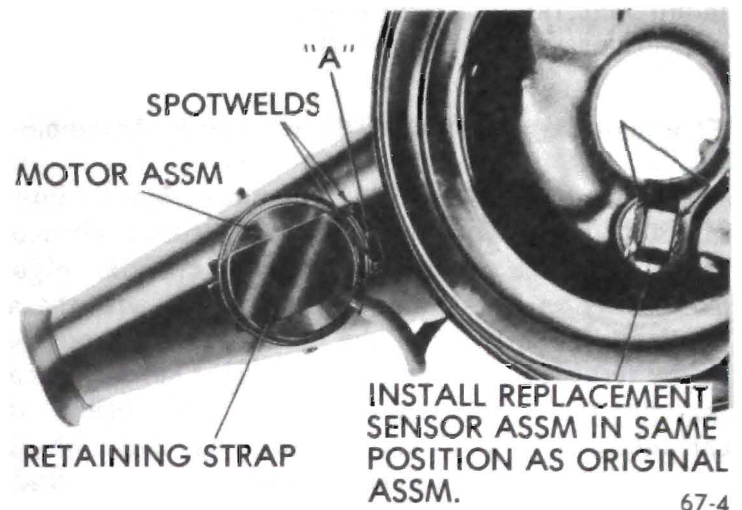

Figure 67-8 - Replacing Vacuum Motor Assembly
3. Remove vacuum motor retainer strap. See Figure 67-8.
5. Drill a 7/64" hole in snorkel tube at point "A" as shown in Figure 67-8.
See Figure 67-8.
5. Install sensor retaining clip. Meanwhile supporting sensor at "B" around the outside rim to prevent damage to the temperature sensing spring. See Figure 67-8.